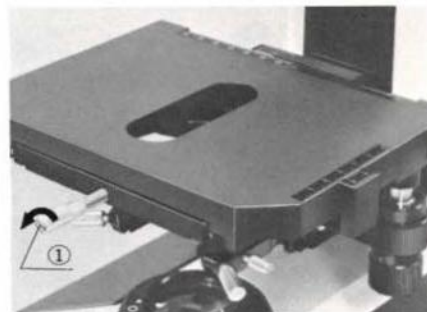

Fig. 2
- 1) Loosen the stage clamping screw ① by rotating counterclockwise. (Fig. 2)